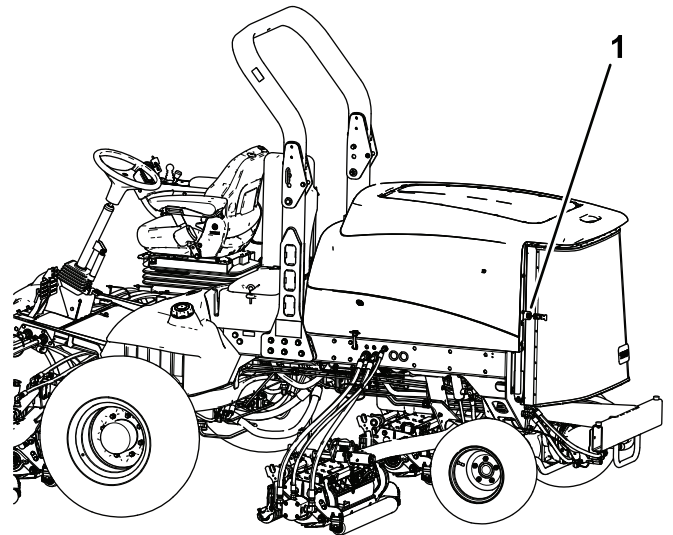

Figure 99
2. Unlatch and swing open the rear screen (Figure 99).